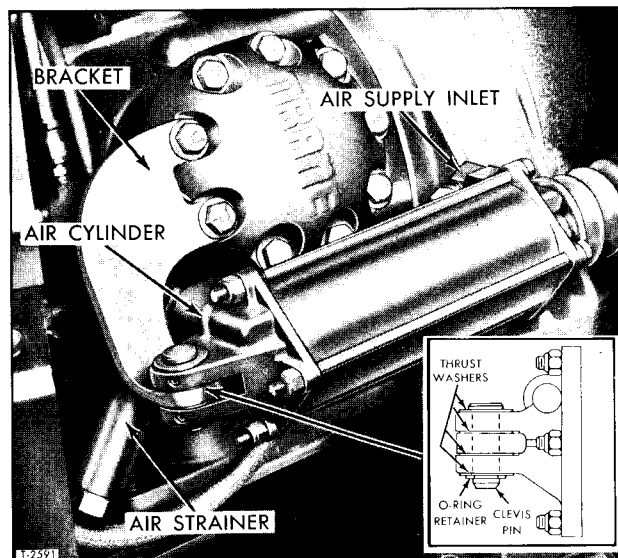

Figure 64—Clutch Control Air Cylinder Installed
3. Remove O-ring retainer and remove pin and four thrust washers from pivot-end of cylinder attached to compressor brackets (fig. 64). Carefully lower cylinder from compartment.
NOTE: Do not lose O-ring retainer or thrust washers from compressor bracket end of cylinder (fig. 64).
3. Raise cylinder assembly into position. Locate washers as shown in figure 64. Attach pivot end of cylinder to mounting bracket with clevis pin and O-ring retainer.